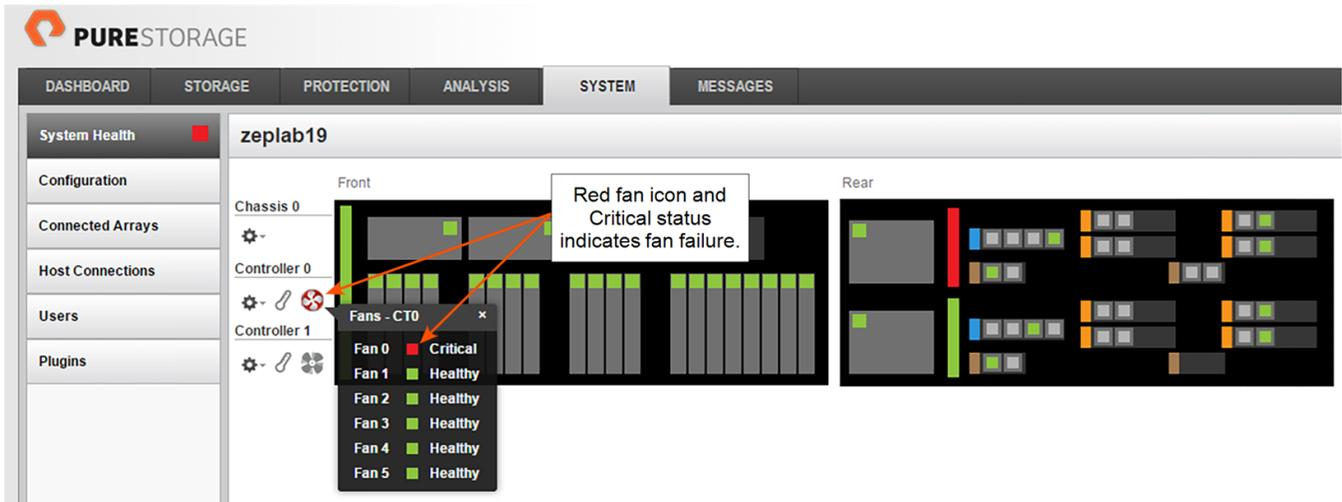

Figure 10-1. GUI Indication of Fan Failure
- Use the Purity GUI. Select **System > System Health**. A red fan icon and red square indicating critical status indicate fan failure (see Figure 10-1).